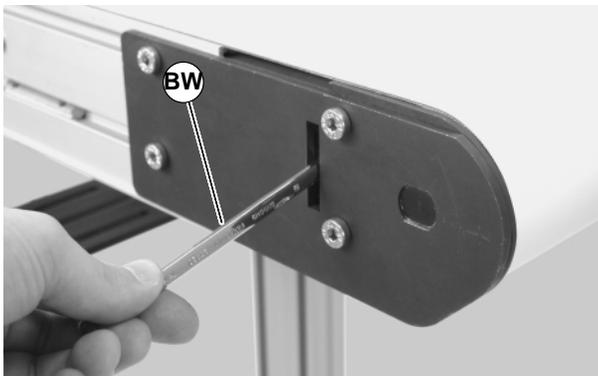
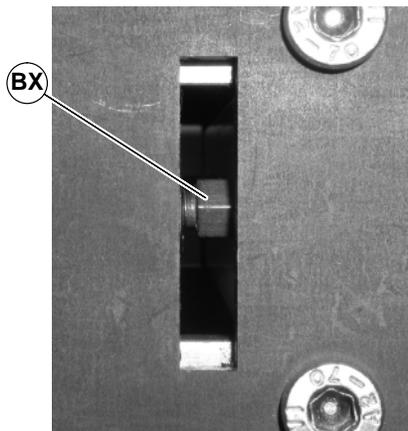

Figure 46
Figure 47
2. With the conveyor running, use wrench (BW of Figure 46) to rotate the tracking screw (BX of Figure 47) in small increments until the belt tracks in the center of the conveyor.